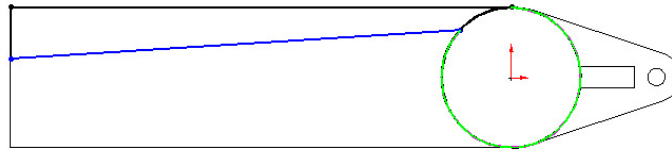

Figure 15 Lever Body Cut Sketch
29. Sketch three lines, and **Trim**  the circle to form the cut profile as shown in Figure 15.